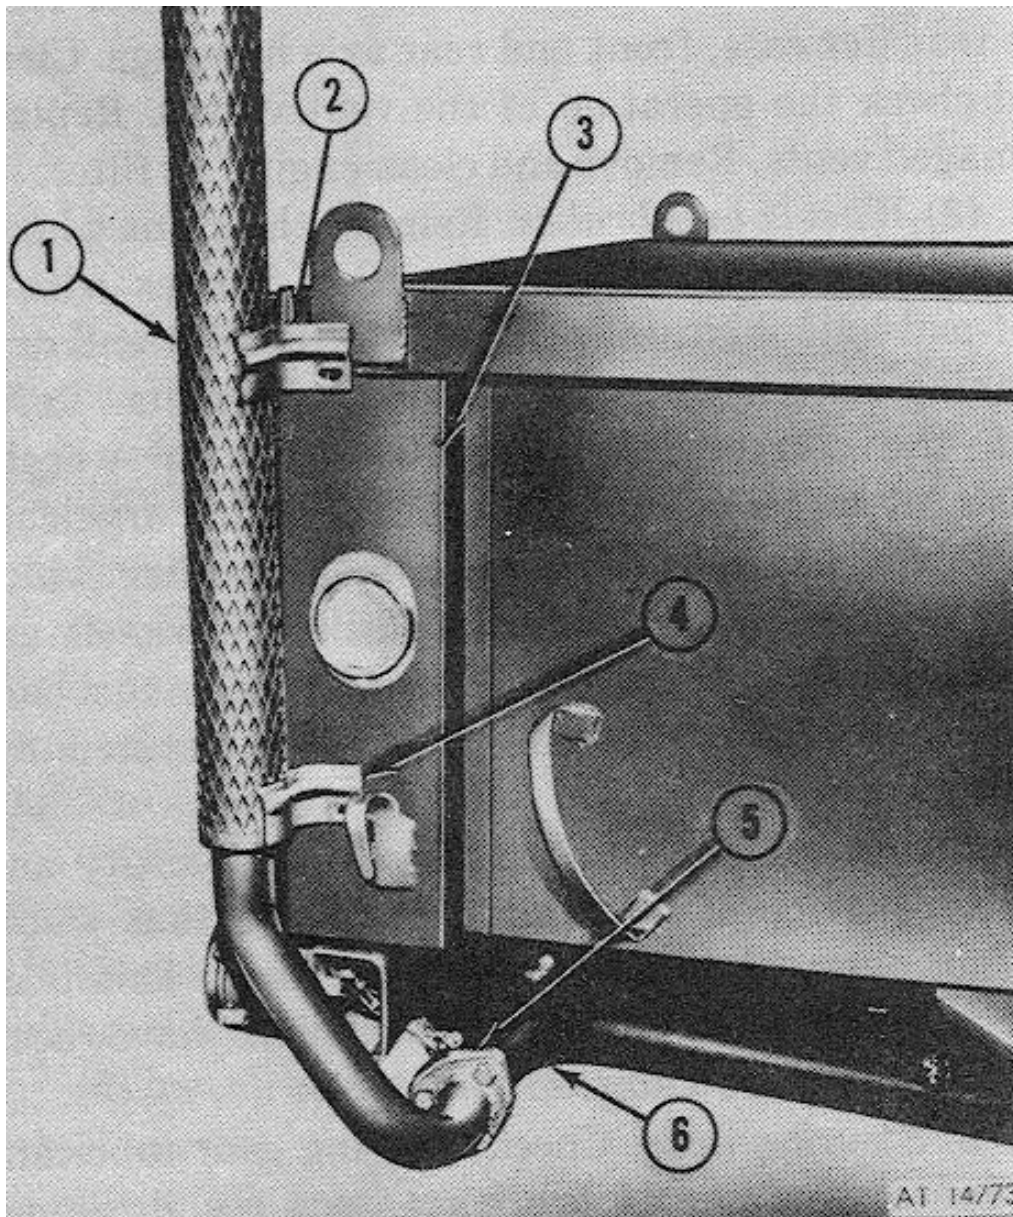

FIGURE 3-3. Exhaust tube extension.
a. Exhaust Extension Tube. (Fig 3-3)
(1) Remove the three cap screws and huglock nuts securing the tube to the exhaust pipe flange. Remove and discard gasket.
(2) Remove two cap screws, lock nuts and washers that secure the tube brackets to the body support. Remove extension tube.
f. Exhaust Extension Tube. (Fig 3-3)
- (1) Position extension tube and brackets to the body support and secure with bolts, nuts and lock washers.
- (2) Install new gasket between the exhaust extension tube and exhaust pipe flange. Install bolts, nuts and lock washers and tighten securely.